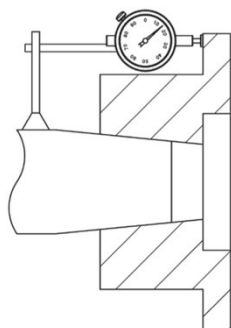

Figure 5 – Dial indicator placement for axial draw measurement example.
- 8.5. Mount a dial indicator to read axial hub advancement, as shown in Figure 5. Alternatively, the indicator can be positioned to contact the end of the hub. Set the indicator to “zero”.